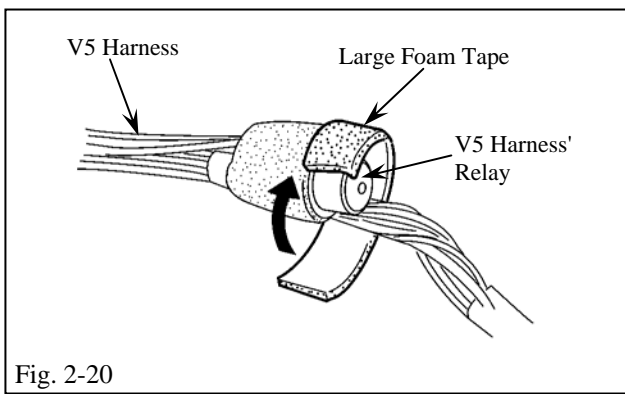

Fig. 2-20
- (y) Locate the V5 harness' relay from the steering shaft area, then wrap the relay's metal part with large foam tape. (Fig. 2-20)